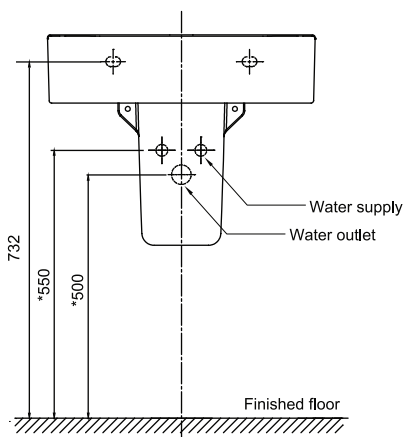

Fig.1
- Fig.1 for installing with semi-pedestal (TF-0740)